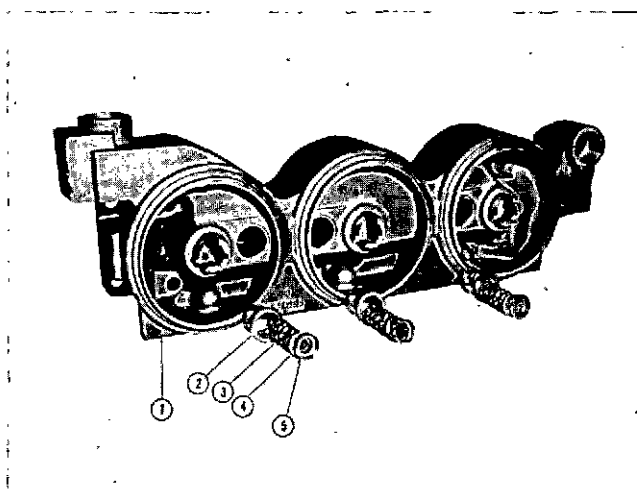

Fig. 7-4-2, V40725. By-pass valves—full-flow filter
4. The filter by-pass valve normally requires no servicing; however, check to make sure the valve works freely. The valve is spring loaded and opens on a pressure differential. Fig. 7-4-2.
1. Remove all pipe plugs and fittings from filter head. Fig. 7-4-2. Remove filter by-pass valve retainer (5), valve seat (4) and spring (3) from filter head (1), if necessary after Step 4 above.
4. If removed, insert filter by-pass valve spring (large end first) in filter head; position relief valve in bore over spring and secure with retainer; press retainer in bore flush with head. Fig. 7-4-2.